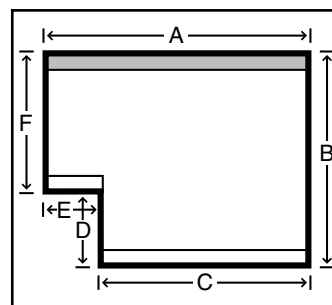

Figure 13 Edge Cut Out
- Edge cut out blinds (Figure 13) will have two bottom rails.